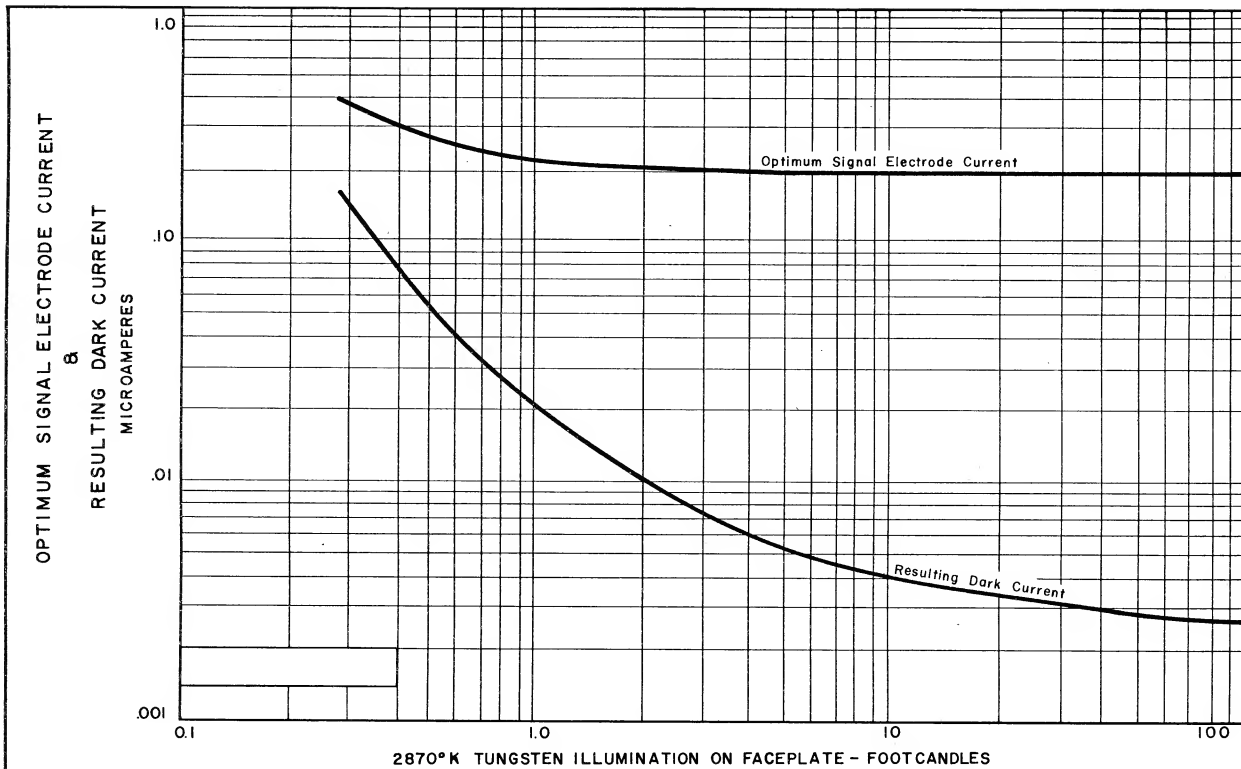

FIG.6 OPTIMUM SIGNAL ELECTRODE CURRENT
*Optimum Signal Output Current (See Figure 6)
Sensitivity is a function of the characteristics of the photoconductive coating and the signal electrode voltage. The TD 8484 Vidicon has a high inherent sensitivity due to the unique quality of its photoconductive coating. Due to the exceptional uniformity of the coating, the TD 8484 may be operated at higher levels of dark current with resultant higher sensitivity (see Figure 6 for optimum operating conditions).